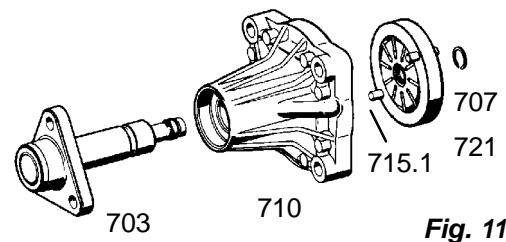

Fig. 11
Release snap ring / retaining ring (707) (Fig. 11).